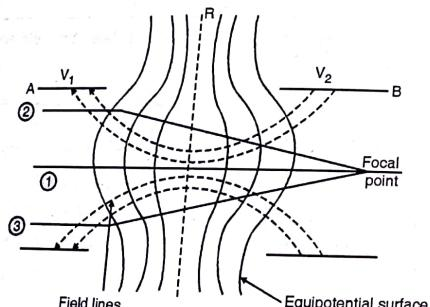

Fig. 7.10.1 : Electrostatic focussing
- A non uniform electric field is produced in the gap as a result of different potentials applied to both the cylinders. In Fig. 7.10.1, we have equipotential surfaces and field lines depicted.
From Fig. 7.10.1 it is clear that beam (1) remain normal to all equipotential surfaces and hence it is simply accelerated and no deviation takes place on its path.
Electron beam (3) will have its path as shown in Fig. 7.10.1, with the explanation as shown for beam (2).